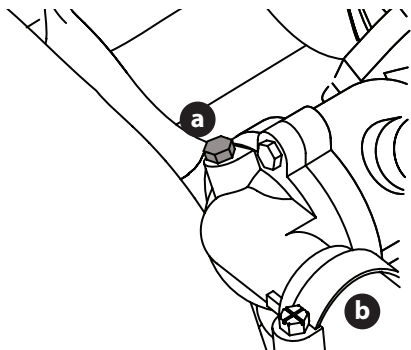

Figure 35
- Remove the second bleeder screw (a) where the radiator hose (b) connects to the engine and let the engine run until a steady stream of fluid comes out of the bleeder screw (a) hole indicating there are no more air pockets in the coolant system. Replace the bleeder screw (a) (Figure 35).